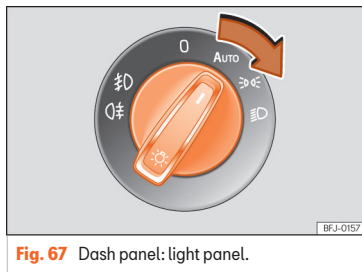

Fig. 67 Dash panel: light panel.
- Turn on the ignition and turn the light switch to the desired position >>> **Fig. 67**: